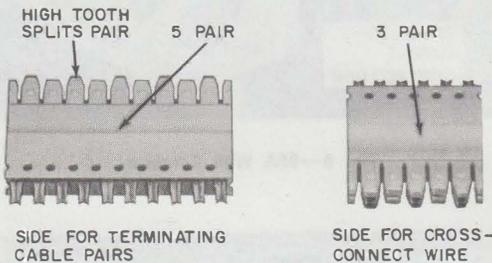

Fig. 3—88-Type Connecting Block
2.04 The 88-type connecting block (Fig. 3) consists of a flame retardant, plastic-molded strip equipped with double-ended, quick-clip metal connectors. When mounted on the wiring block, the bottom end makes connection with the cable conductors in the index strip, and the top end provides connections for cross-connect wires. They are available in 3- and 5-pair blocks. The clips for terminating the cables are designed to terminate PE or PVC 22-, 24-, or 26-gauge wire without the removal of insulation.